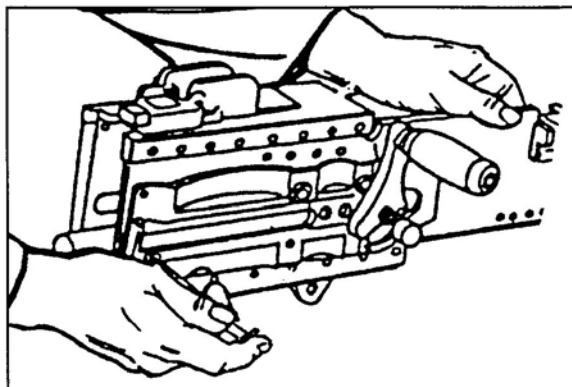

Figure 16. Removal of the barrel buffer group and barrel extension group.
e. Remove the barrel buffer and barrel extension assemblies (Figure 16).